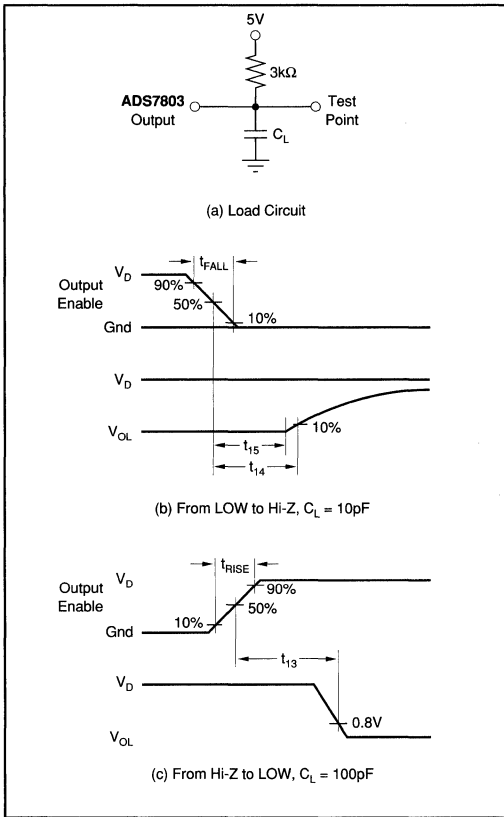

FIGURE 8. Measuring Active LOW to/from Hi-Z State.
NOTES: (1) All input control signals are specified with $t_{\text{RISE}} = t_{\text{FALL}} = 20\text{ns}$ (10% to 90% of 5V) and timed from a voltage level of 1.6V. Data is timed from V_{DD} , V_{IL} , V_{OH} or V_{OL} . (2) The internal RD pulse is performed by a NOR wiring of CS and RD. The internal WR pulse is performed by a NOR wiring of CS and WR. (3) Figures 8 and 9 show the measurement circuits and pulse diagrams for testing transitions to and from Hi-Z states.